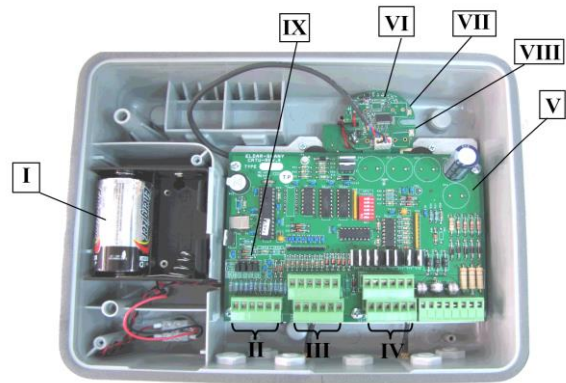
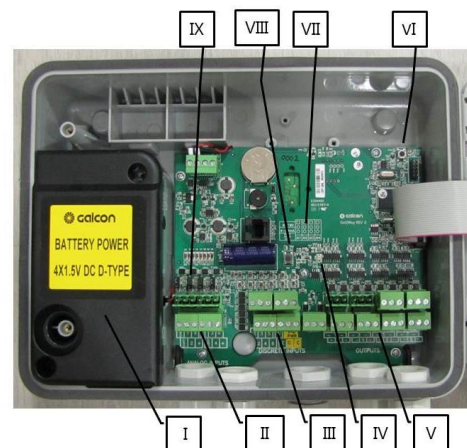

Figure 1: Galcon 8489 RTU Features
Figure 2: G2W 4 / G2W 8 Features
The analog input ports can operate at a voltage range of 0-10 V, or a current range of 4-20 mA. To define the operation setting for each input port, move the jumper (Item IX in Figure 1) according to the jumper diagram on the circuit board.
The analog input ports can operate at a voltage range of 0-10 V or a current range of 4-20 mA. To define the operation setting for each input port, move the jumper (Item IX in Figure 2) according to the jumper diagram (Item VII in Figure 2) on the circuit board.
2. On the field unit you are registering, hold down the registration button (see Figure 1 or Figure 2) until the red LED turns on. Release the registration button. The station number and the Galileo number flash on the screen (for example: “SO1: Galcon RTU, GALILEO NUM: 05”).
2. On the repeater unit you are registering, hold down the registration button (see Figure 1 or Figure 2) until the red LED turns on. Release the registration button. The station number and the Galileo number flash on the screen (for example: “SO1: Gal2Way 2 GALILEO NUM: 09”).